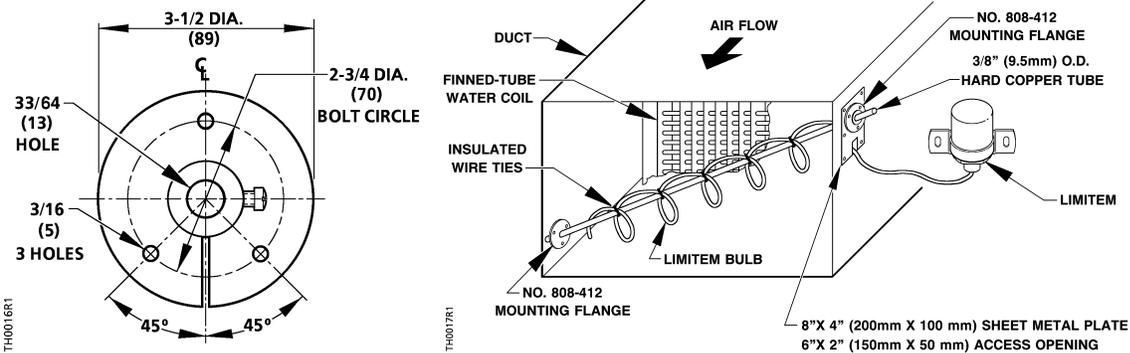

Figure 8. Installation of TH 357 Averaging Bulb in a Duct.
- For duct mounting where access to the coil is limited, see Figure 8. Use flange Number 808-412 and a length of 3/8-inch (9.5 mm) O.D. hard copper tube to expose the bulb to the air leaving the coil within the duct.